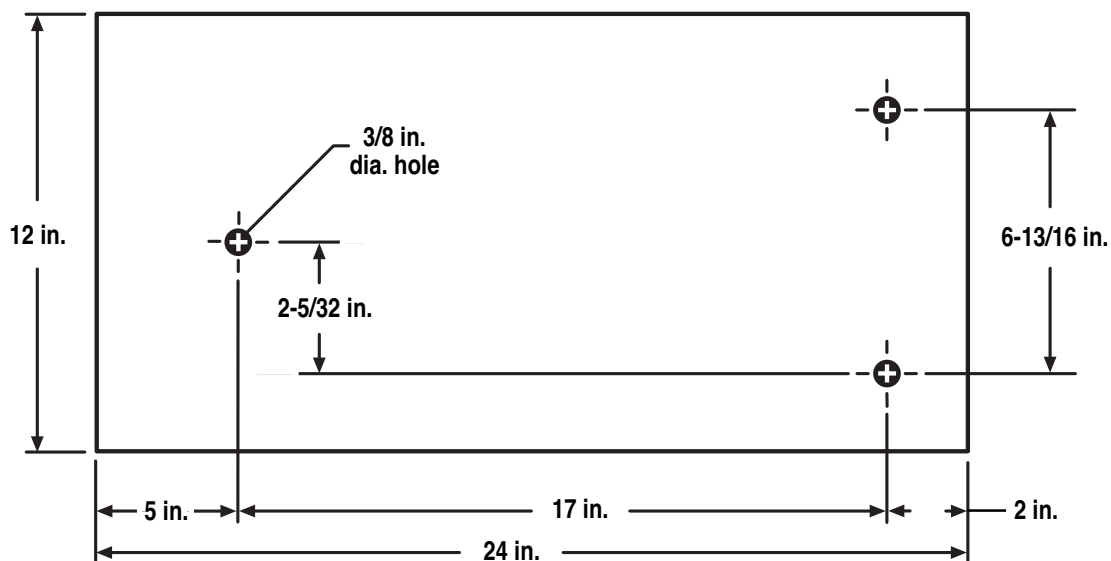

Fig. 5
See Figure 5.
- Mount saw to board using holes in frame as a template for hole pattern or the diagram in *Figure 5*. Locate and mark the holes where scroll saw is to be mounted.